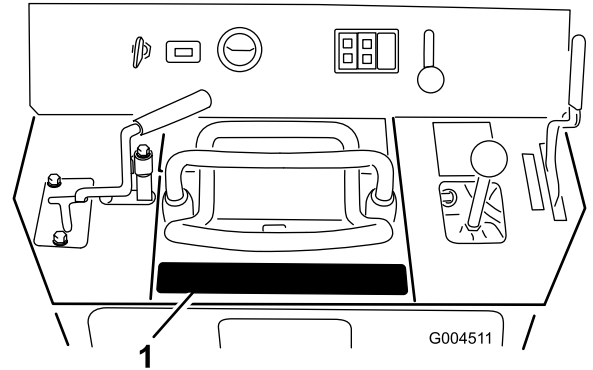

Figure 7
1. Clean the area behind the traction control so that there is not dirt or grease on it (Figure 7).
2. Remove the backing from the decal and install it in the decal location shown in Figure 7.